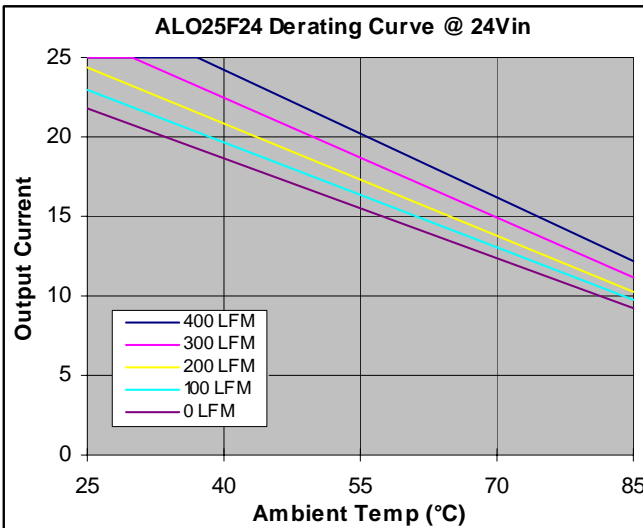

Figure 11. Output Current vs. Temperature at  $V_{IN}=24\text{V}$ ,  $I_O = \text{Full Load}$ ,  $T_A = 25^\circ\text{C}$ .
4. Output power derating applies at elevated temperature. Refer to Figure 11.